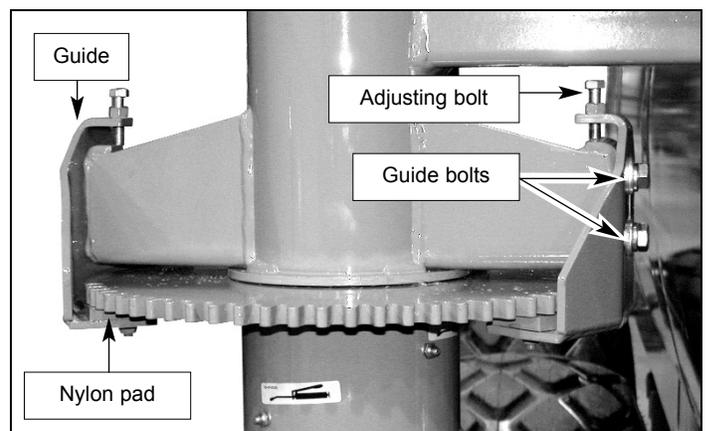

Fig. 9
- 2.5 Install the side arm guides. Screw the adjusting bolt so the nylon pads **lightly touch** the gear, without supporting the weight of the side arm. Tighten the guide bolts - *fig. 9*.